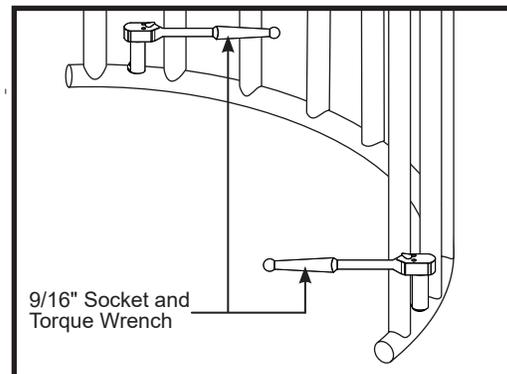

Fig. 10
9. Once the yoke has been leveled, use a torque wrench and $\frac{9}{16}$ " socket to tighten the anchor bolts to 40 ft-lbs. (Figure 10).